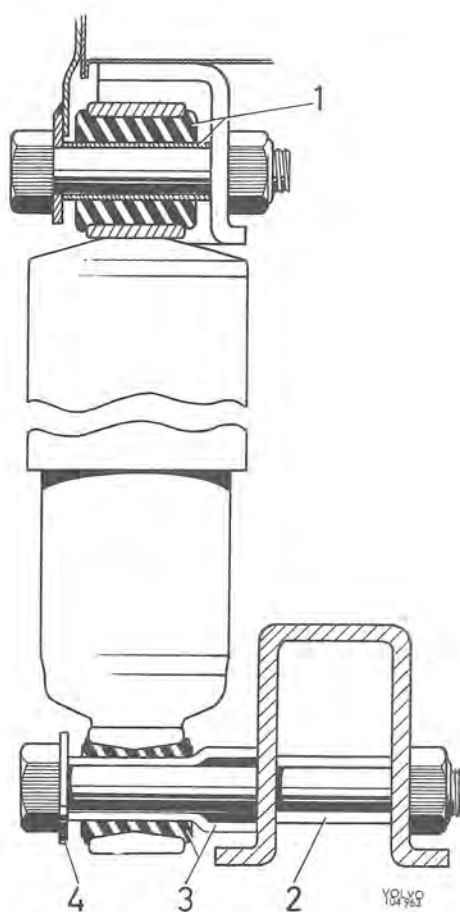

Fig. 7-9. Attachments, rear shock absorber
The rear shock absorber attachment (Fig. 7-9) consists of eyelets provided with rubber bushes (1 and 3) which cannot be dismantled. These absorbers are bolted at the top to the rear side-members and at the bottom to the support arms.
2. When fitting make sure that the spacing sleeve in the support arm has not been removed (2, Fig. 7-9). Fit and tighten the shock absorber. Fit the wheel and wheel nuts. Lower the vehicle. Put on the hub cap.
- N. B. Check that the spacing sleeve and washers are placed correctly, see Fig. 7-9. Remove the props from under the vehicle and lower it.